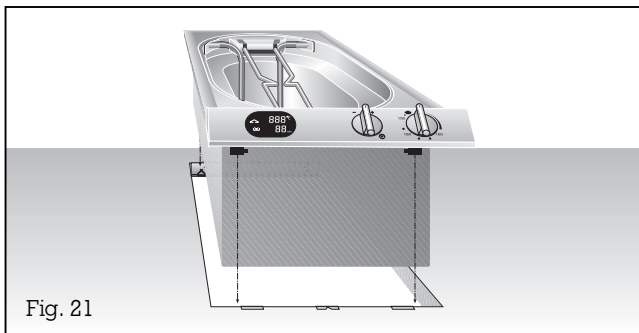

Fig. 21
– **Lower the appliance into the worktop.** Make sure that the engaging lugs on the appliance lie exactly on the clamping springs. Press the appliance firmly into the worktop. The engaging lugs on the appliance “snap” into the clamping springs (Fig. 21).